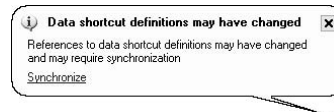

Figure 14.13
- Using the Window menu, select the *Creating References.dwg* file to make it active. An alert bubble like the one shown in Figure 14.13 should appear. This may take a few minutes, but if you expand *Creating References* → *Alignments* in Prospector, you will also see a series of warning chevrons. You might look for this change manually if one of your team members e-mails or calls to tell you they've made a design change and you don't want to wait for the alert bubble.